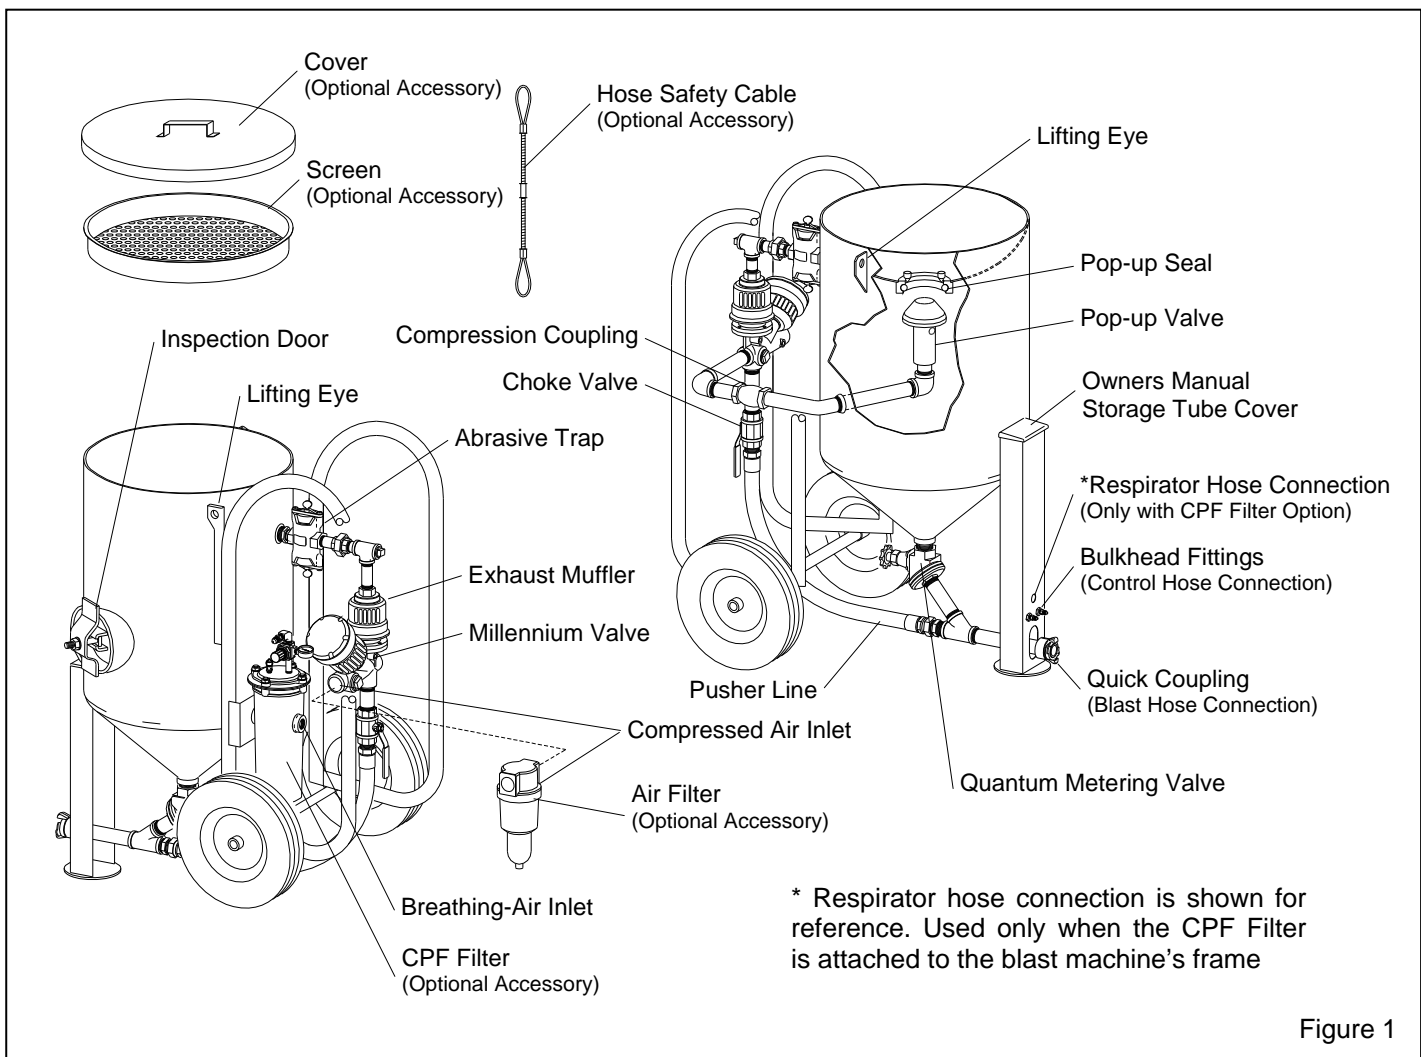

Figure 1
1.3.1.1 The primary components of the Contractor machines are shown in Figure 1. They include the blast machine with Millennium Remote Controls, manually operated Quantum Abrasive Metering Valve, frame assembly, optional compressed air filter, and optional CPF particulate air filter.
**2.4.2** Connect an air supply hose fitting that is compatible with the air supply hose from an air source that meets OSHA requirements for respirable air, to the CPF Filter inlet, as shown in Figure 1. Pressure supplied to the filter must not exceed 150 psi.
**2.4.3** For models with CPF filter attached, connect the 5-foot respirator lead hose to the fitting at the top of the CPF filter and the compatible fitting on the front leg of the blast machine. Refer to Figure 1 for fitting location.